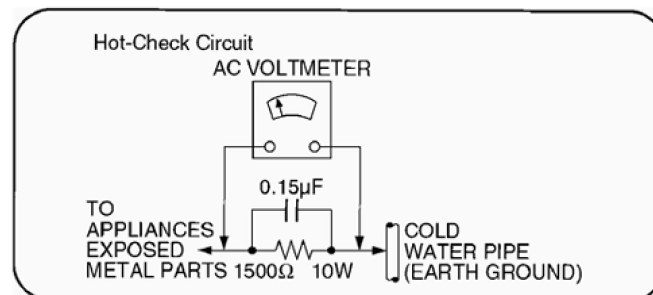

Figure 1
3.1.2. Leakage Current Hot Check (See Figure 1)
2. Connect a 1.5kΩ, 10 watts resistor, in parallel with a 0.15µF capacitor, between each exposed metallic part on the set and a good earth ground such as a water pipe, as shown in Figure 1.